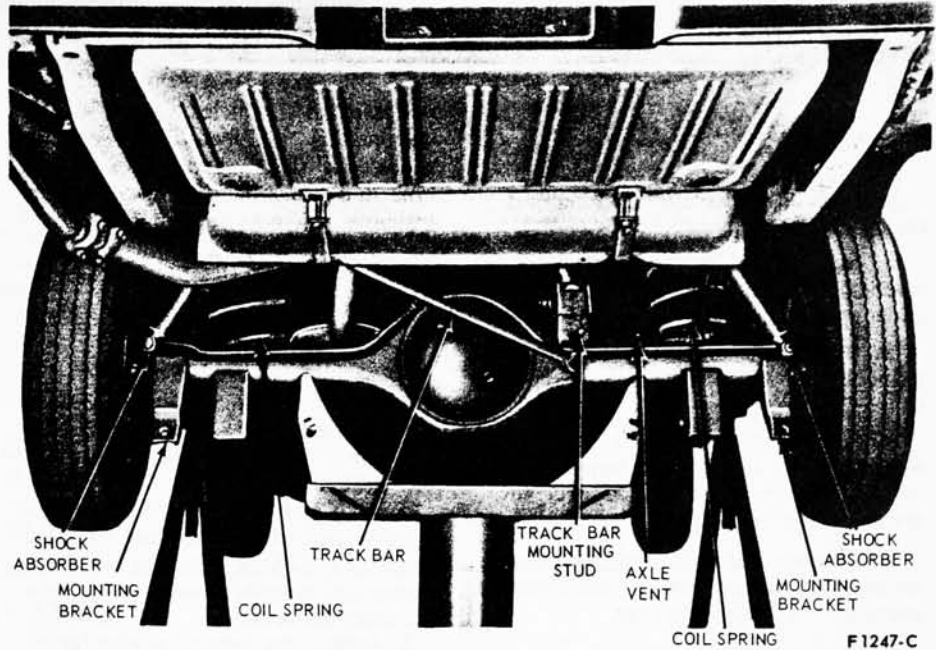

FIG. 5—Removing or Installing Rear Spring
3. Lower the hoist and axle housing until the coil springs are released (Fig. 5).
3. Remove the nut and washer retaining the track bar to the upper arm bracket and disengage the track bar from the mounting stud (Fig. 5).